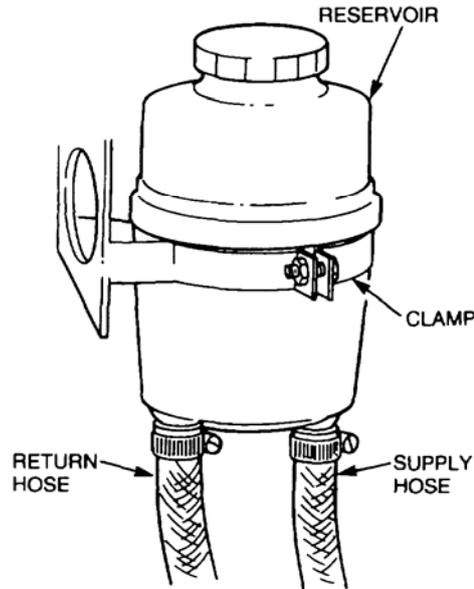

Figure 7 Return And Supply Hoses To Reservoir Removal
- f. Disconnect the hoses from the fluid reservoir (refer Figure 7).